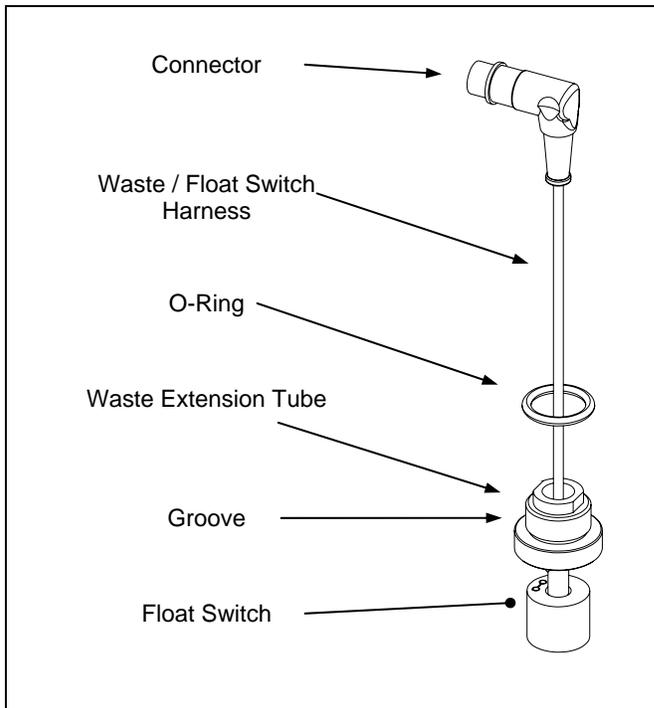

Figure 13-4 Float Switch Harness
- 3 When installing a new float, place the O-ring (Part No. 44000100) over the Float Switch Harness as shown in Figure 13-4.